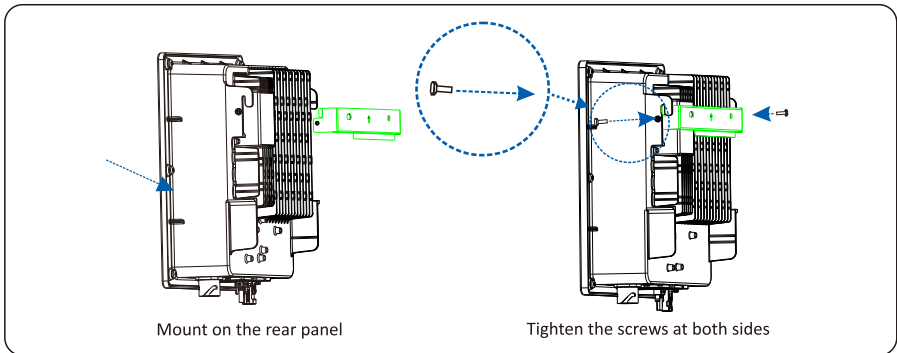

Figure 4.14 Securing the inverter
Step 2 Mount the inverter on the rear panel and keep them aligned with each other, as shown in Figure 4.14.
Step 3 Tighten the two hexagon screws at the both sides of the inverter to a torque of 1.2N.m and 3N.m respectively. Screw specs for 2K-3.6K and 4.6K-6K are M4 and M6 respectively, as shown in Figure 4.14.